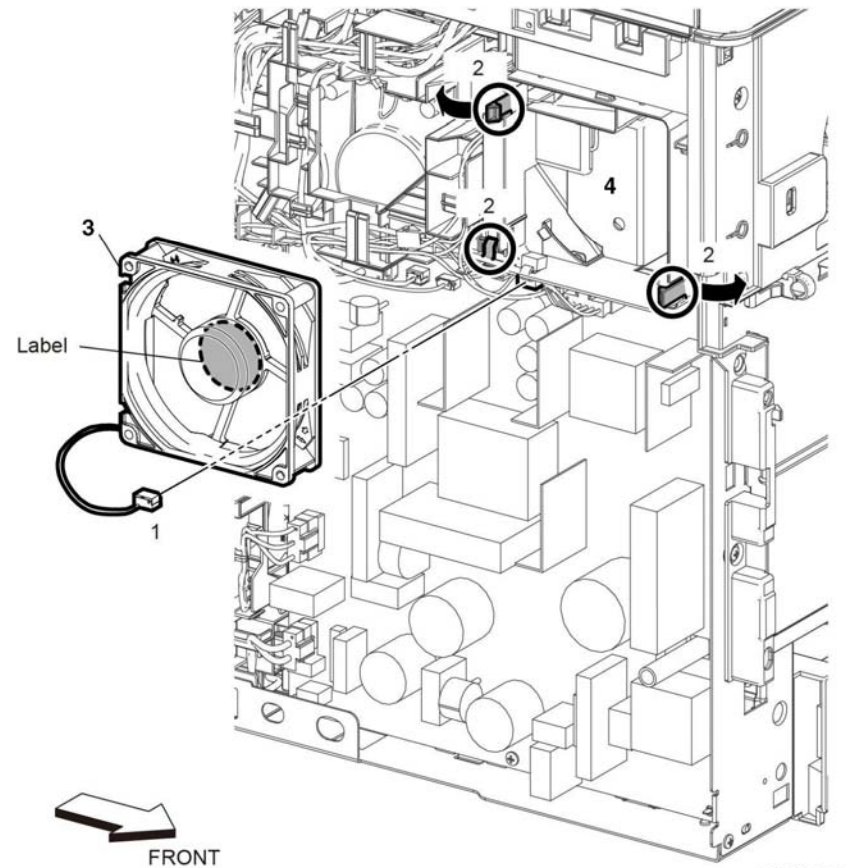

Figure 1 Main fan removal
6. Remove the main fan, Figure 1:
- a. Disconnect connector P/J289 (1).
- b. Release three hooks (2) attaching the main fan (3) to the main fan duct (4), then remove the fan (3).